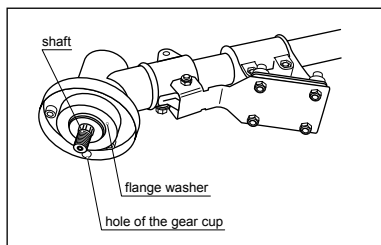

fig. 7
- Align the hole of the flange washer with the hole of the gear cup (fig. 7).